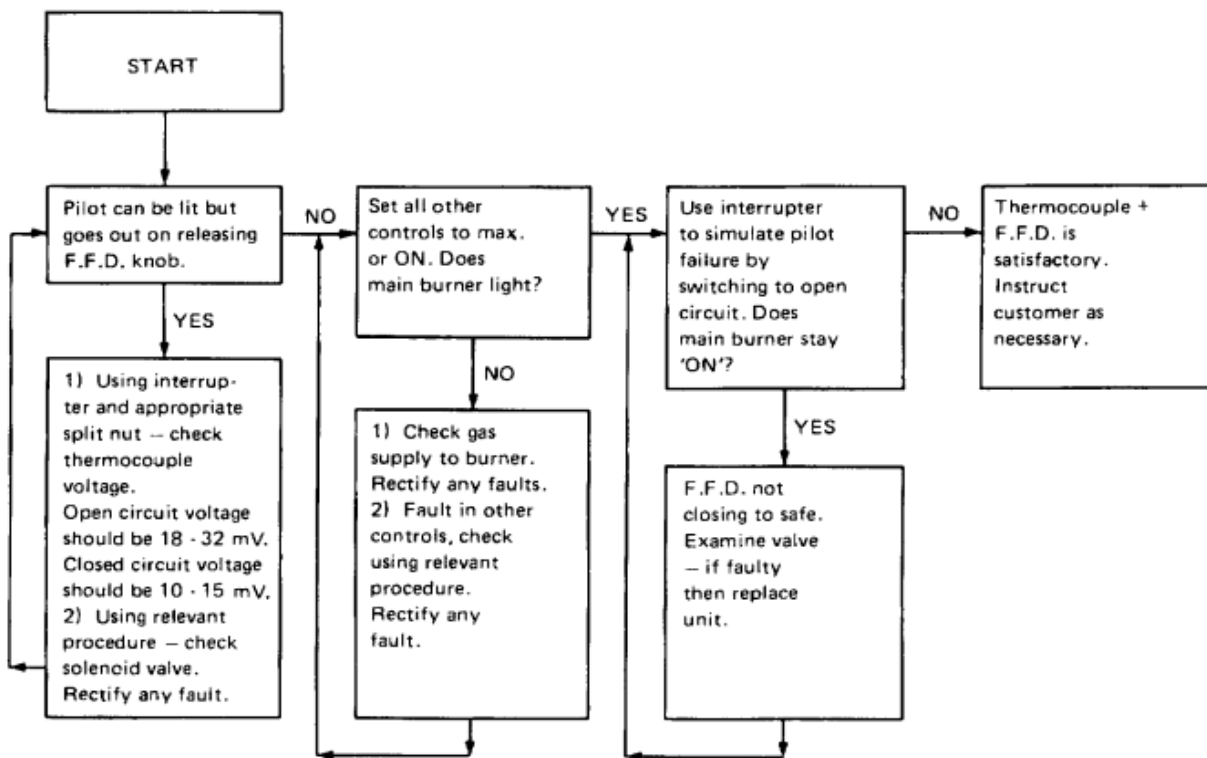
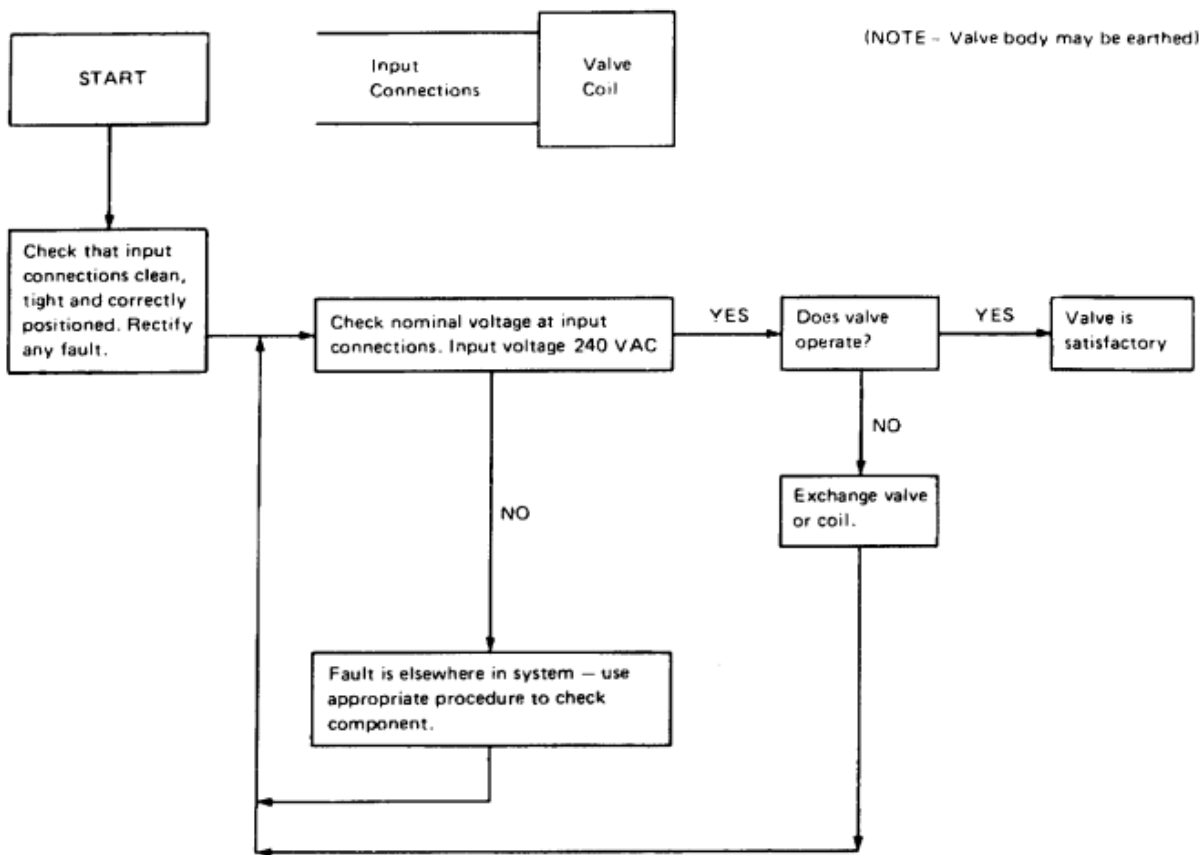

FIG. 13
FIG. 14 SOLENOID VALVE
B. Main burner fails to light and pilot is extinguished when pressure on the control knob is released.	(1) Control knob not held down long enough.	Control knob must be pressed fully down for 20 seconds before main valve can be energised.
(2) Loose thermocouple connection into control valve.	Tighten thermocouple union nut finger tight plus 1/turn only. Ensure connection is clean and dry. TOO MUCH PRESSURE MAY DAMAGE INSULATION AND CAUSE FAILURE.
(3) Pilot rate too low.	Adjust the pilot flame, see Section 6.
(4) Partially blocked pilot injector.	As item A.(3)
(5) Failure of thermocouple, power unit or latching mechanism.	After pilot has been on for 20 seconds, release control knob. If pilot goes out: (a) Check FED, and thermocouple using procedure given in Fig. 13 . (b) If thermocouple has failed, replace as described in Servicing Instructions, Section 7.D . Similarly, if control valve has failed, replace as described in Servicing Instructions, Section 7.E .
C. Main burner fails to light, pilot burning.	(1) Boiler thermostat set to 'OFF' or low setting.	Note setting of thermostat dial and check temperature of flow pipe.
(2) Additional controls not calling for heat.	Check programmer or clock is 'ON' and that room thermostat or other distant control is not closed down. Carry out preliminary electrical system checks.
(3) S.I.T. control solenoid valve failed.	Check solenoid using procedure given in Fig. 14 . If solenoid valve has failed, remove coil